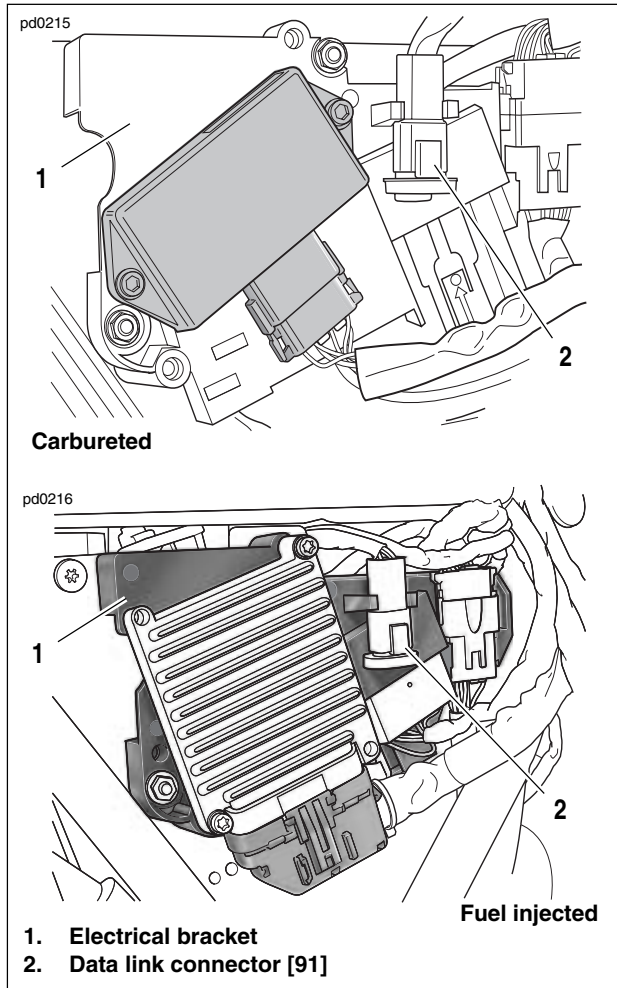

Figure 2-1. Data Link Connector
See Figure 2-1. The data link connector [91] (2) mounts in a clip on the electrical bracket (1) under the right side cover. Cut the cable tie securing the data link connector harness to the frame and snap the connector into its clip on the electrical bracket.